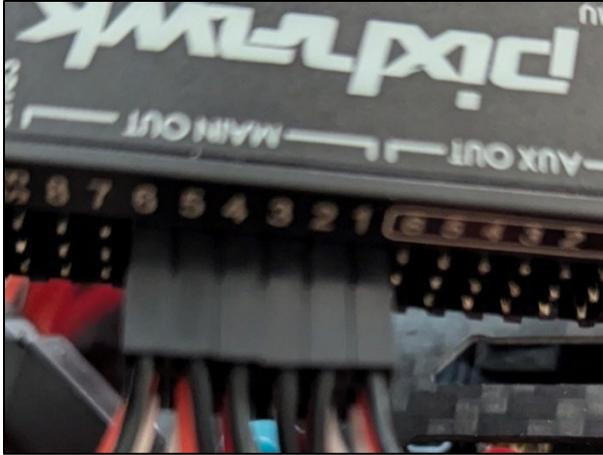

Figure 61 ESC cables attached to the flight controller
5. Attach all six ESC cables to the **MAIN OUT** pins. M1 should be at position one, M2 at position two, and so forth as shown in **Figure 61**. The black wire should be facing up ³⁷.